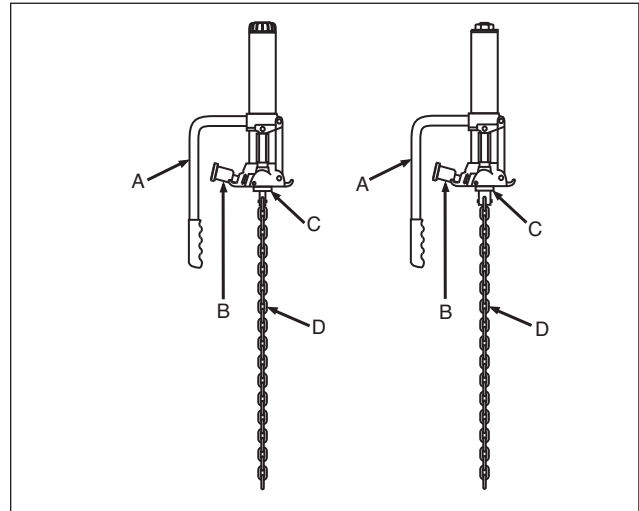

Figure 1. Bed Lifting Jack
1. The bed lifting jack is shipped loose, not mounted to the frame. See Figure 1.